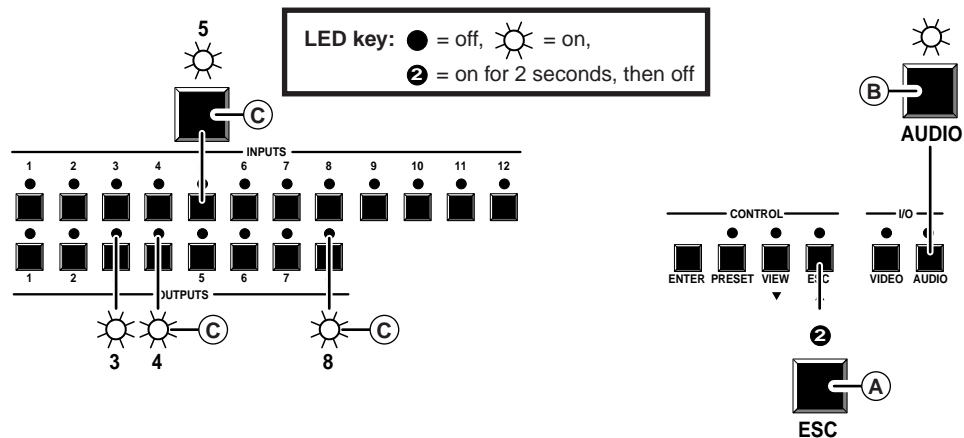
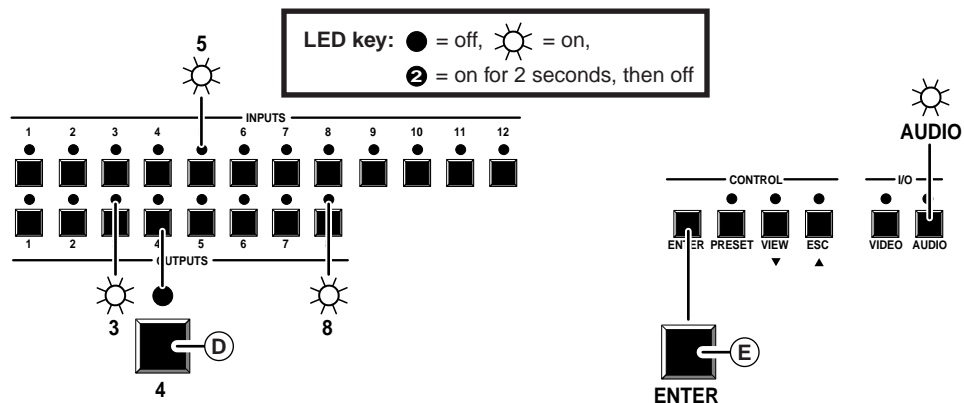

Figure 3-5 — Example 3: Selecting audio and selecting input 5
Figure 3-6 — Example 3d: Removing an audio tie
See figure 3-5, figure 3-6, and the following steps for an example in which an existing audio tie is removed from the current configuration on a 12x8 Matrix 50 switcher with audio.
- D** Press and release the output 4 button (figure 3-6). The output 4 LED turns off, while the output 3 and output 8 LEDs remain lit.